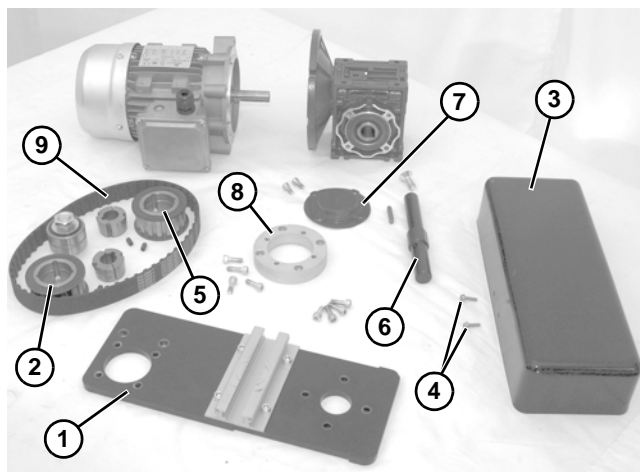

Figure 4
1. Typical components (**Figure 4**)